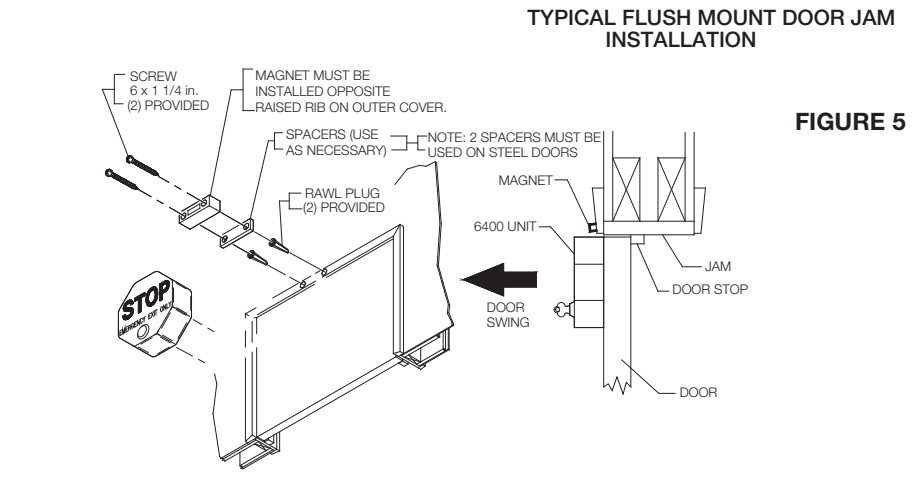

FIGURE 5
5. Mount magnet on door frame (or door if unit is mounted next to door) using screws provided. When mounting on metal doors or door frames, use plastic spacer provided. Reed switch and magnet must be within 13mm/1/2" when door is closed. Please refer to figures 5, 6 and 7 for other mounting options.